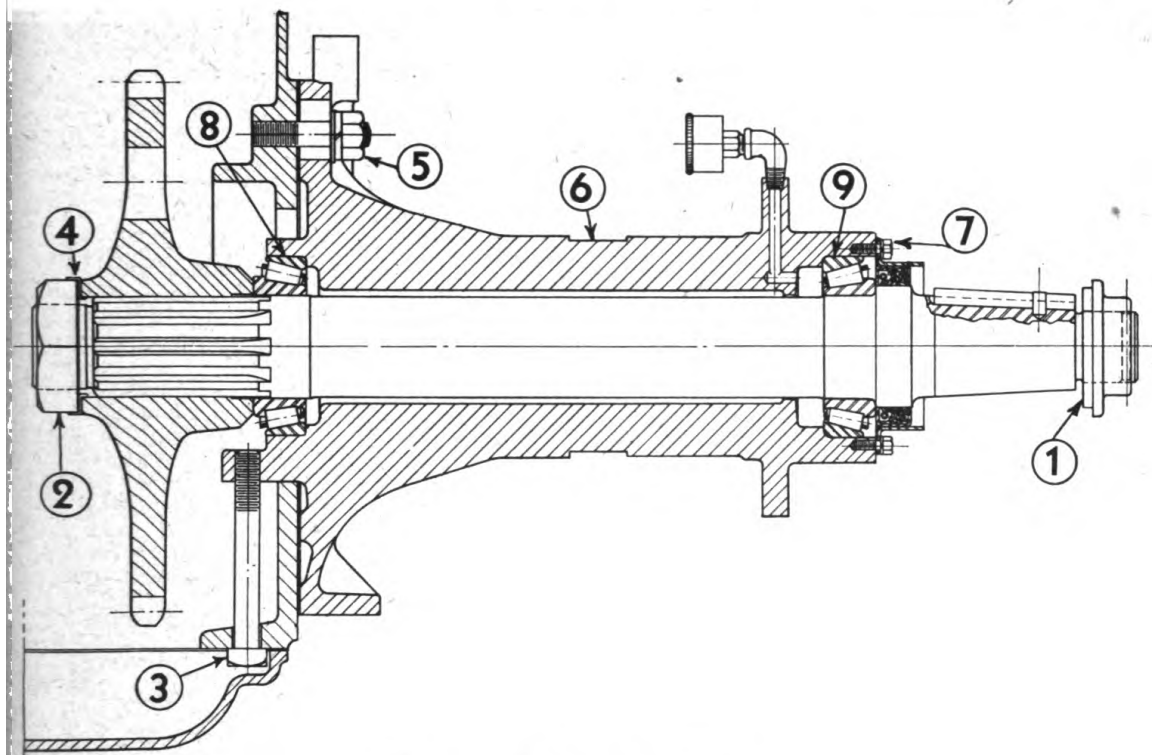

Fig. 35. Rear Axle Assembly
Before adjustments of rear axle bearings are made, a close inspection of Fig. 35 is worth while. Adjustment of the axle and wheel assembly and its relation to the adjusting nut (2) is clearly illustrated.
2. Remove nut 1, Fig. 35 which will allow removal of the drive wheel.
0. A bearing puller furnished by Owatonna Tool Company (consisting of the following parts) can be used to remove outer bearing 9, Fig. 35.
3. When replacing outer bearing 9, Fig. 35, use care to drive it in place evenly, drive only on the shoulder of the inner race of the bearing. A pipe or heavy tube the size of the inner race of the bearing, and large enough to go over the shaft makes a very suitable driver.